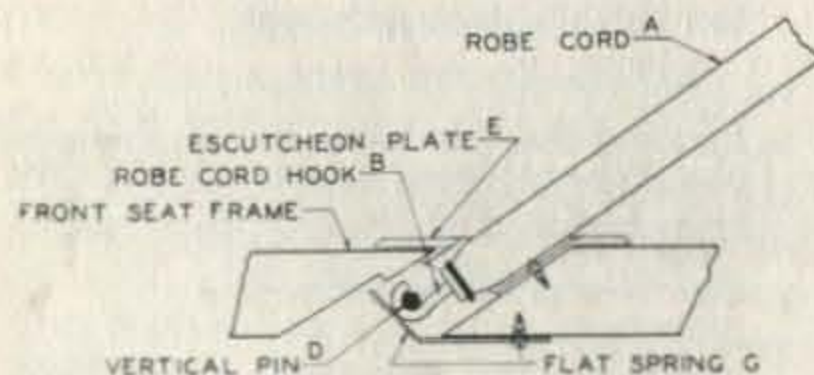

Fig. 36. Robe Cord Removal
1. Push in on one end of the cord and rotate it one quarter of a circle (90 degrees). It does not matter if the cord is rotated clockwise or counter clockwise. This will free the robe cord hook "B" from the vertical pin "D." See Fig. 36.